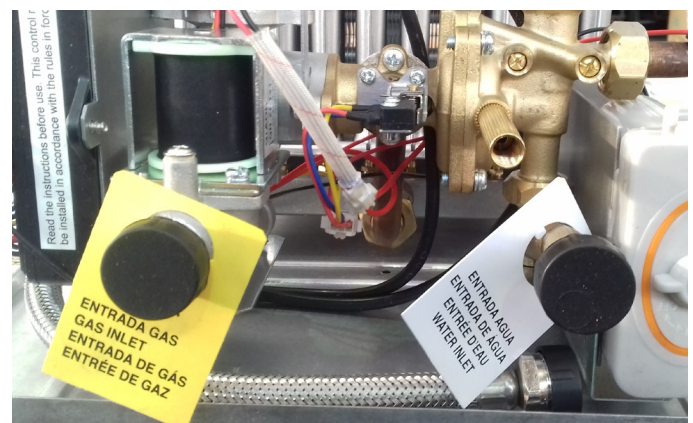

fig. 8 - Connection cards
- Remove the plugs from the water and gas connections (see fig. 8).